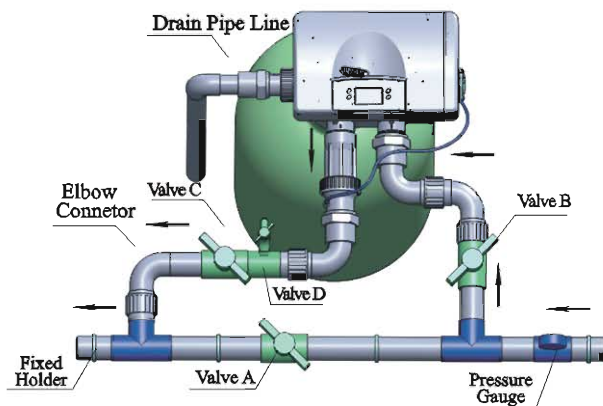

Figure1-3
③ Pipeline connection
- As Figure1-3 shows, install a pressure gauge in water inlet.
- Install sampling valves in inlet、outlet and pipeline A.B.C.D as showed in Figure 1-3.